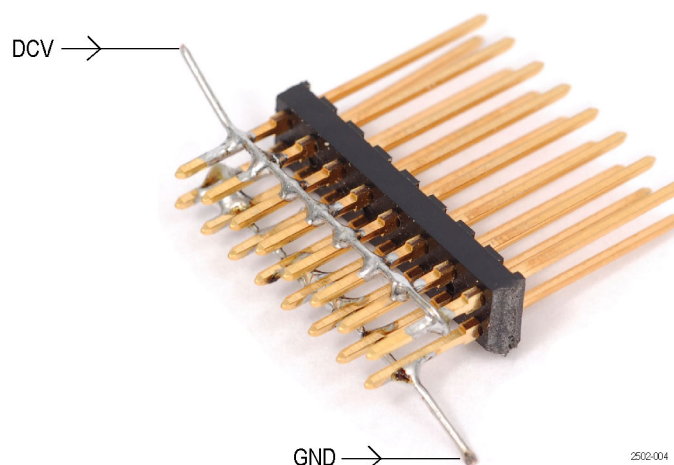

Figure 4: Threshold Accuracy test fixture
1. Set the square-pin strip down and lay a wire across one row of pins on one side of the insulator as shown. Leave some extra wire at one end for connecting to a test lead. (See Figure 4.)